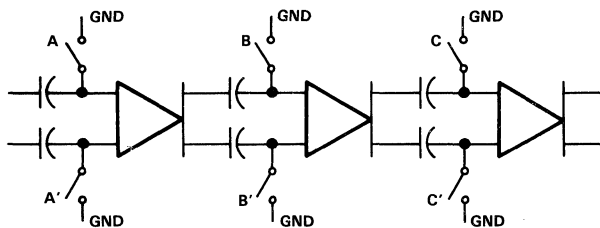

FIGURE 1
1. The IN+ and IN- inputs are internally shorted together in order that the comparator input is zero. A course comparator offset calibration is performed by storing the offset voltages of the interconnecting comparator stages on the coupling capacitors, which connect the interconnecting stages. Refer to Figure 1. The storage of offset voltages is accomplished by closing all switches and then opening switches A and A', then switches B and B', and then C and C'. This process continues until all interconnecting stages of the comparator are calibrated. After this action, some of the comparator offset still remains uncalibrated.